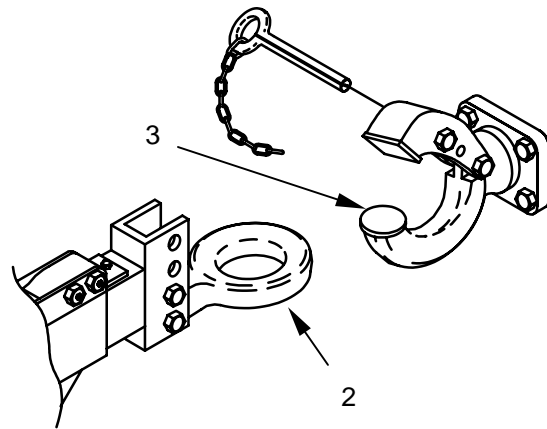

Figure 5. Adjusting Towing Height
4. Raise or lower the trailer as necessary with the jack (**figure 5, item 1**) so that the lunette eye (**figure 5, item 2**) is at the same height as the towing pintle (**figure 5, item 3**) of the prime mover.
- To raise the trailer, rotate the handle clockwise. To lower the trailer, rotate the handle counter clockwise. Lock in place by inserting locking pin (figure 5, item 4).